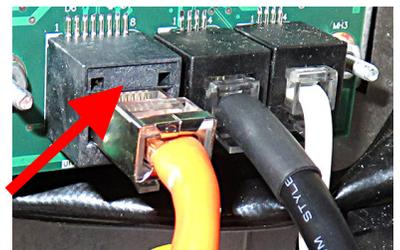

Figure 29
35. Reattach the harness disconnected in step 33 (see Figure 29).
40. Once fryer has powered up, wait one (1) additional minute with the left controller OFF and press the HOME button.